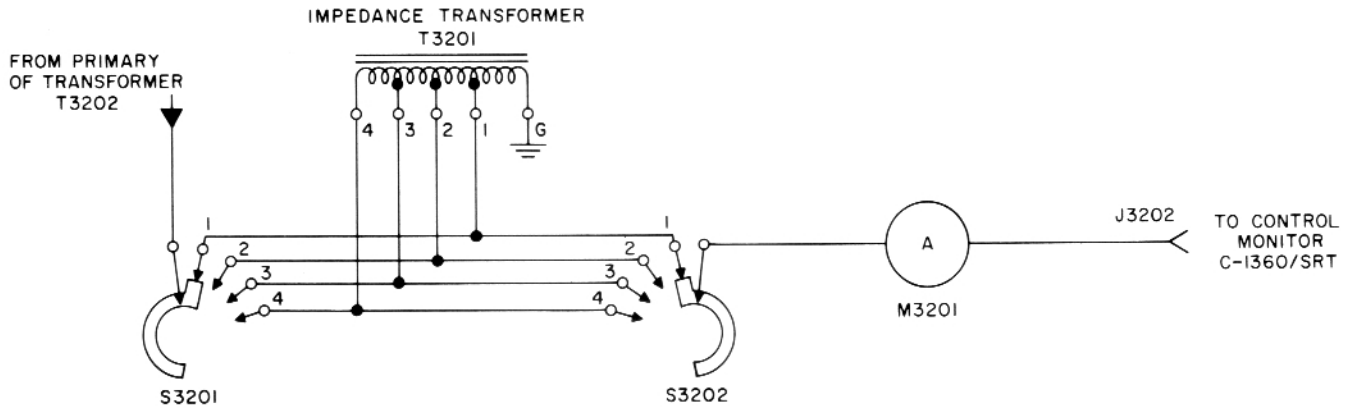

Figure 2-24. Transmitter Coupler CU-402/SRT, Impedance Transformer Section
c. IMPEDANCE TRANSFORMER CIRCUIT (Figure 2-24).— Impedance transformer T3201 is an auto-transformer consisting of seven turns, with a tap at turns 3, 5, 6, and 7. The property of an auto-transformer is such that the ratio of primary impedance to secondary impedance is directly proportional to the square of the turns ratio. Transformer T3201 actually provides a number of turns ratios by use of different taps. The RF energy from the output of the transmitter is fed to the RF INPUT receptacle J3201 which in turn is con-